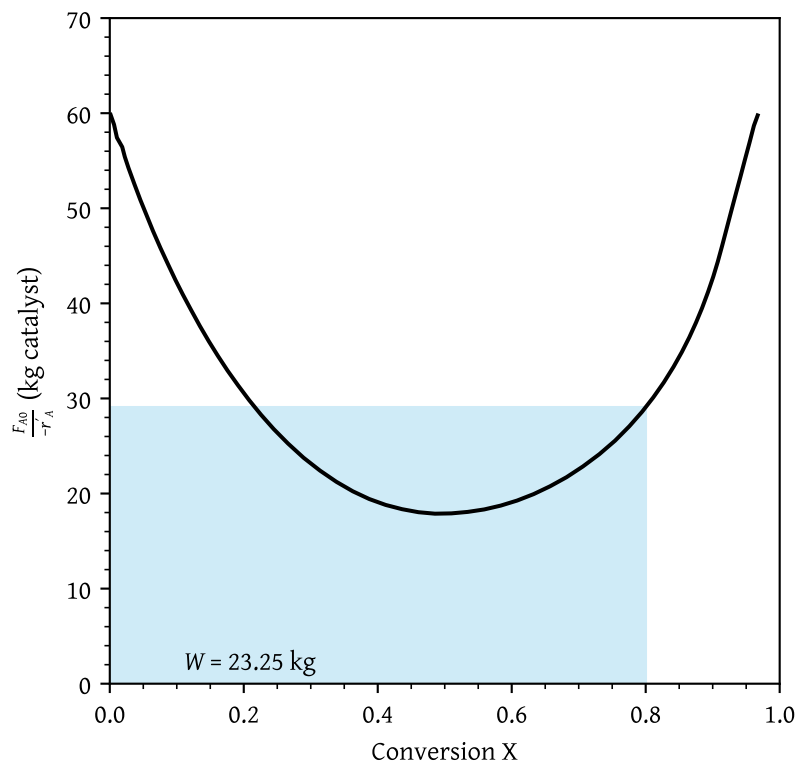

Figure 24: Catalyst weight for 80% conversion in CSTR
- What is the catalyst weight necessary to achieve 80% conversion in a fluidized CSTR? (Figure 24)